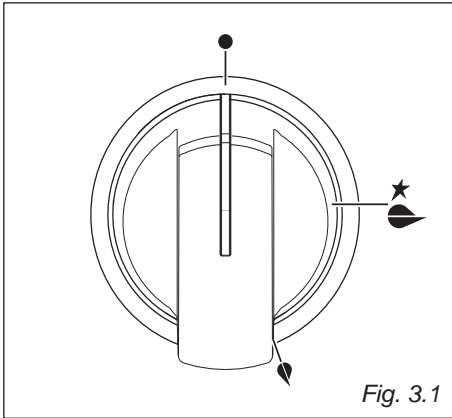
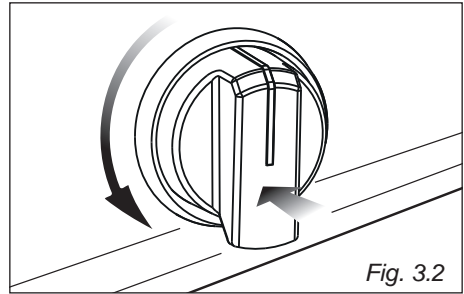

Fig. 3.1
Fig. 3.2
- Remove the screw securing the cover "A" on the rear of the cooker (fig. 3.2).
Gas flow to the burners is adjusted by turning the knobs (illustrated in fig. 3.1) which control the safety valves. Turning the knob, so that the indicator line points to the symbols printed on the panel, achieves the following functions:
1. Press in the corresponding knob and turn counter-clockwise (fig. 3.2) to the full flame position marked by the  symbol (fig. 3.1); hold the knob in until the flame has been lit. In the case of a mains failure light the burner with a match or lighted taper.